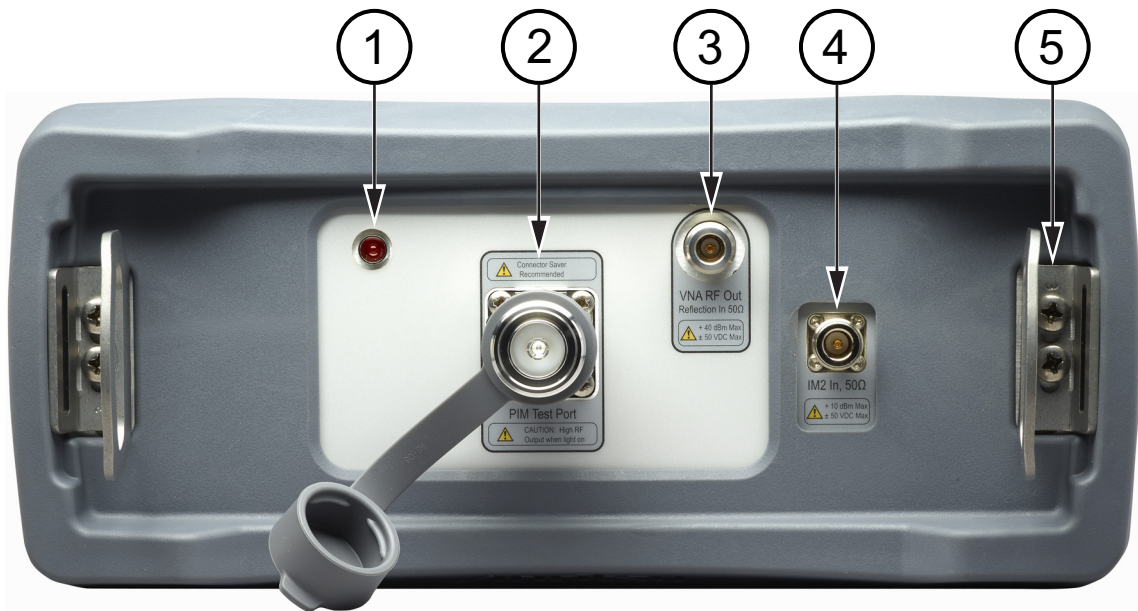

Figure 2-6. PIM Master Top Panel Layout
PIM Radio Frequency ON Light (item 1 in Figure 2-6)
PIM Test Connector (item 2 in Figure 2-6)
VNA RF Out Connector (item 3 in Figure 2-6)
IM2 In Connector (item 4 in Figure 2-6)
Strap Bracket (item 5 in Figure 2-6)
The 2-port top connector panel includes the base features from Figure 2-6 plus those for the 2-port.